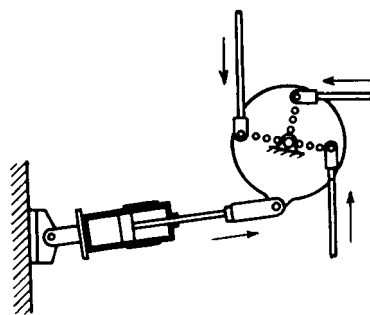

Fig. 8 A cylinder can be used with a trammel plate.
**Fig. 8** The housing of the Hele-Shaw-Beauchamp pump rotates the round-cranked shaft. Connecting rods attached to the crank ring cause the pistons to oscillate as the housing rotates. No valves are necessary because the fixed hollow shaft, divided by a wall, has suction and compression sides that are always in correct register with the inlet and outlet ports.